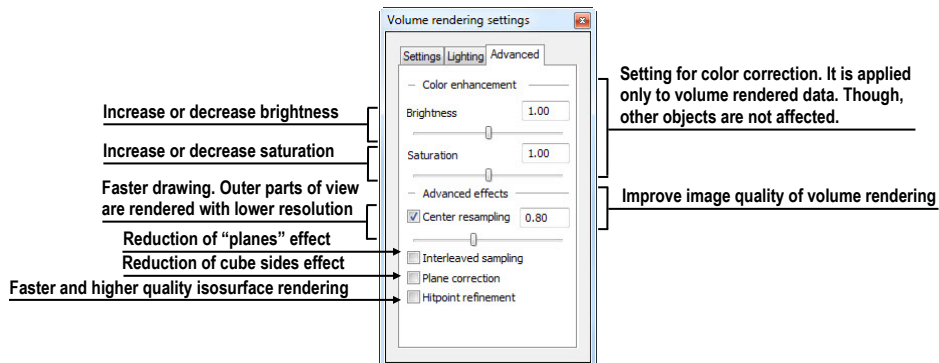

Figure 279 – Volume rendering settings, the third tab
- settings for color corrections and advanced ray casting settings on the **Advanced** tab (see Figure 279)